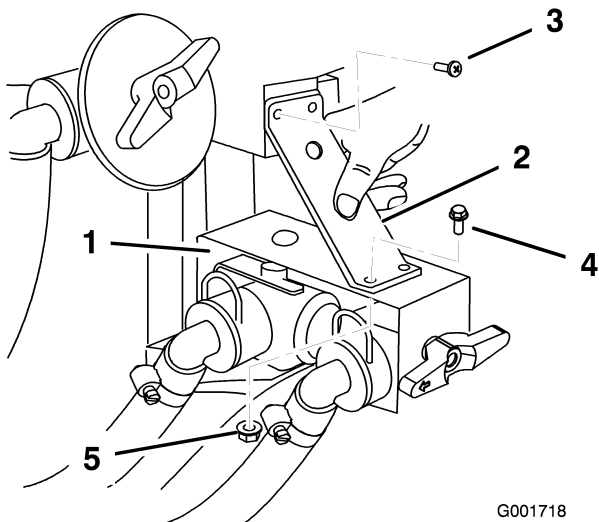

Figure 11
8. Install the support bracket over the control valve bracket. Use the two existing screws securing the upper tee assembly to secure upper portion of the support bracket (Figure 11). Secure the lower portion of the support bracket using two flange-head bolts (1/4 x 3/4 inch) and two flange nuts (1/4 inch).